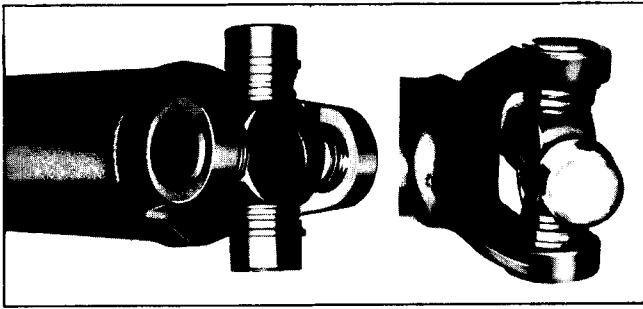

Fig. 4E-7 Bearings Held in Place by Tie Wire
3. If bearing tie wire has been removed, use suitable rubber band or tape to hold bearings onto journal, thus preventing loss of bearing rollers while rear universal joint is being disconnected (Fig. 4E-7).